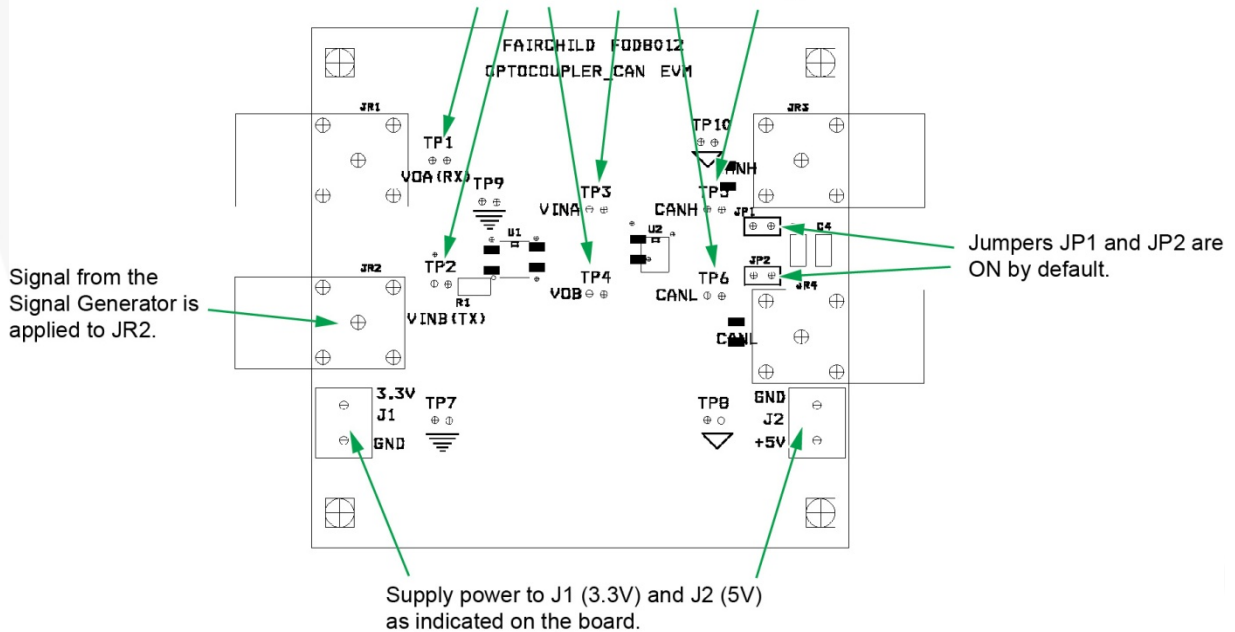
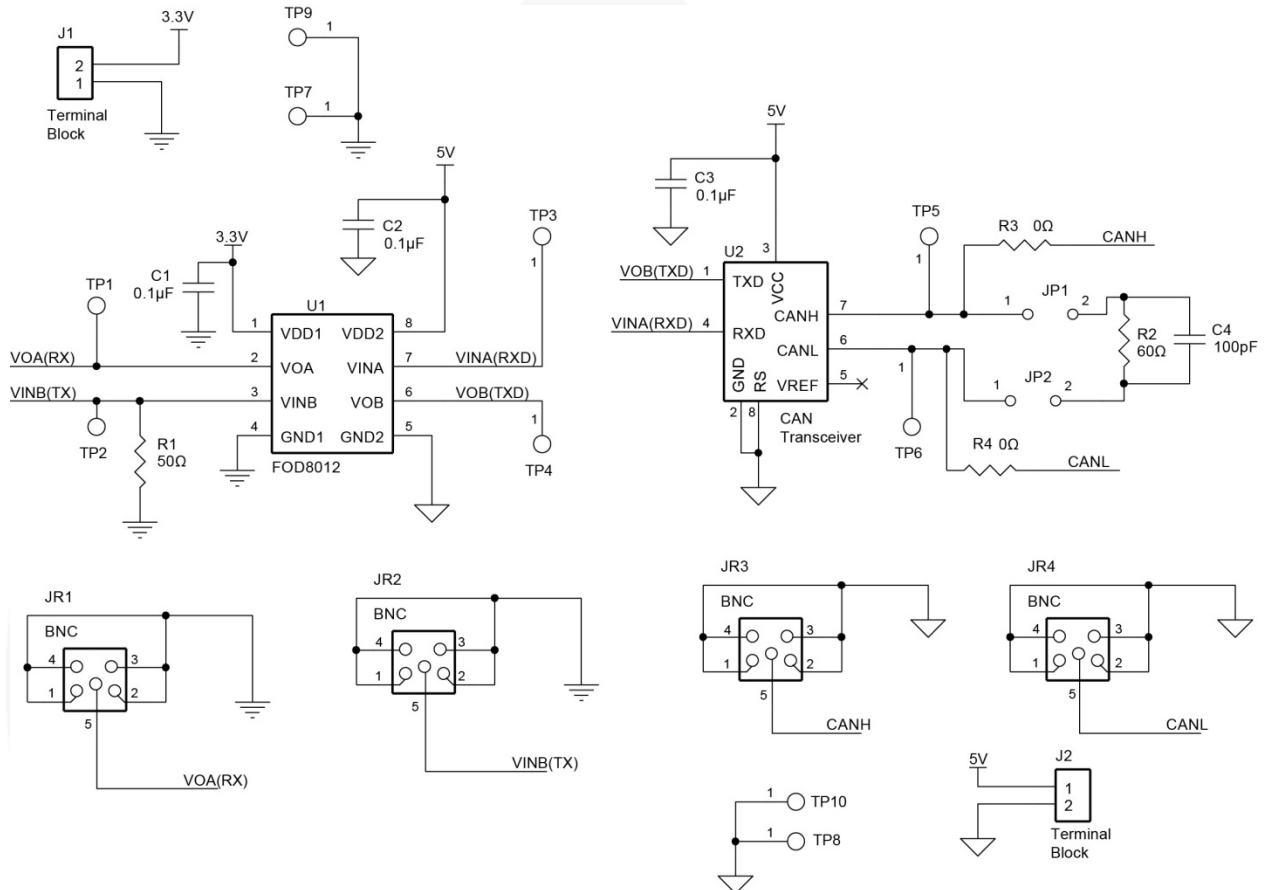
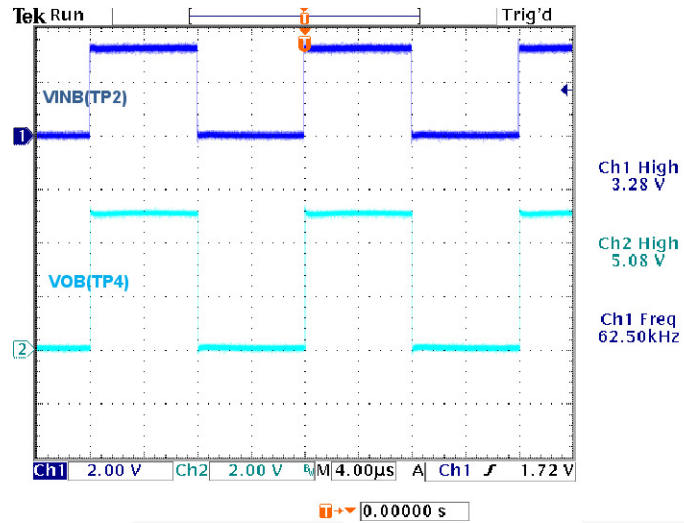
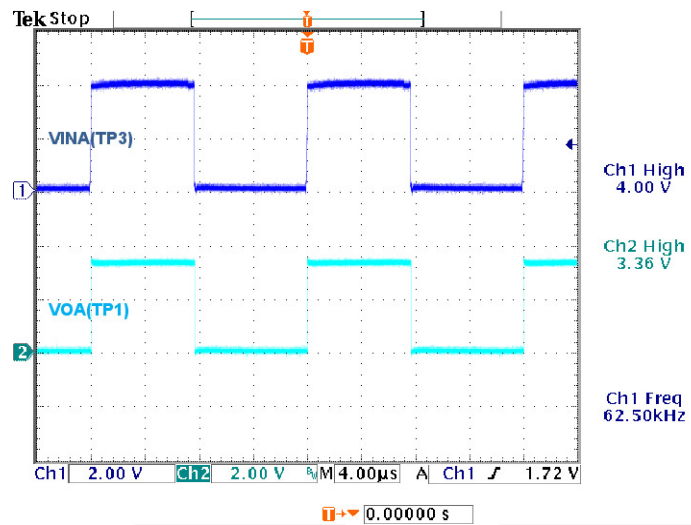

Figure 3. FEBFOD8012_CAN Board Setup
Figure 4. Evaluation Board Schematic
Figure 5. VINB is the Input Signal; FOD8012 Output Signal, VOB, Drives CAN Transceiver
Figure 7. Output Signal from CAN Transceiver Drives Input, VINA, of FOD8012, VOA = FOD8012 Output Signal
The FEBFOD8012_CAN evaluation board enables users to make a quick and accurate assessment of Fairchild's FOD8012 in a bi-directional data transmission application. The setup requires two power supply sources. V_{DD1} (J1) is on one side of the isolation barrier with V_{DD2} and V_{CC} (J2) is on the other side of the isolation barrier, sharing the same power supply source. A square wave is applied to one of the FOD8012 channels (VINB / VOB), which in turn drives the CAN transceiver. The resulting CAN output is fed back to the input of the other FOD8012 channel (VINA / VOA). This completes the bi-directional data transmission loop. Test points located at selected positions (as indicated in Figure 3 and Figure 4) allow the user to probe the signals and measure the switching characteristics of the device.
The following steps and Figure 3 describe the setup of the FEBFOD8012_CAN board.
5. Enable the signal generator. The signal waveforms can be probed at various test points, as shown in Figure 3:
- TP1: VOA (RX) is the output voltage from channel-A of the FOD8012.
- TP2: VINB (TX) is the input voltage to channel-B of the FOD8012. Signal from the signal generator is applied here.
The scope shots in Figure 5 through Figure 7 illustrate normal operation of the CAN data transfer via the isolated channels of the FOD8012. Refer to Figure 4 for the schematic.